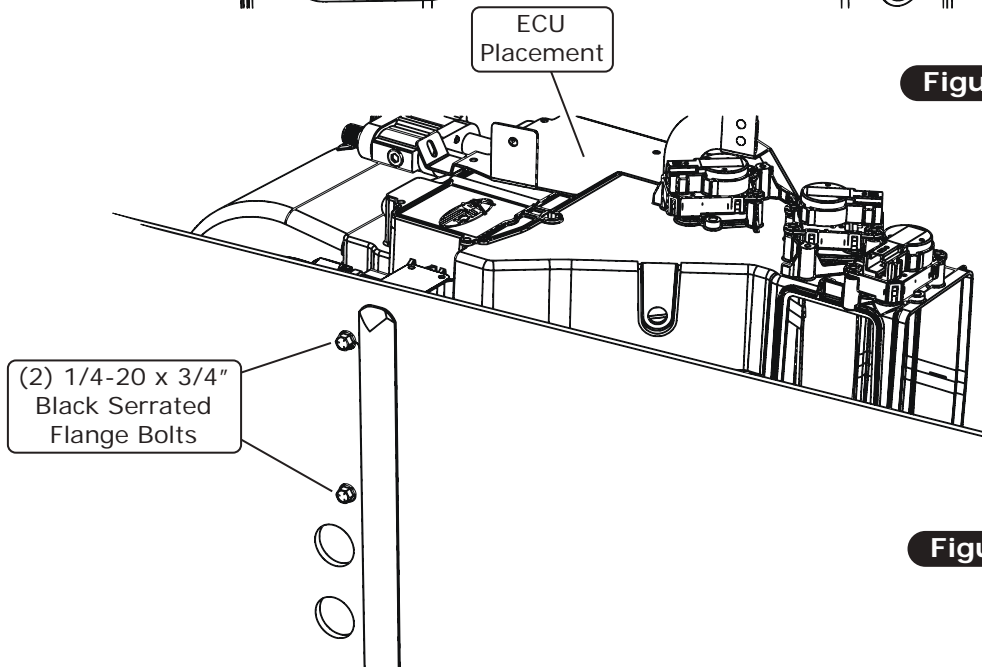

Figure 13
13. From the engine compartment, remove the full-threaded studs one at a time, and install the (2) supplied 1/4-20 x 3/4" black serrated flange bolts in their place (See Figure 13, below).